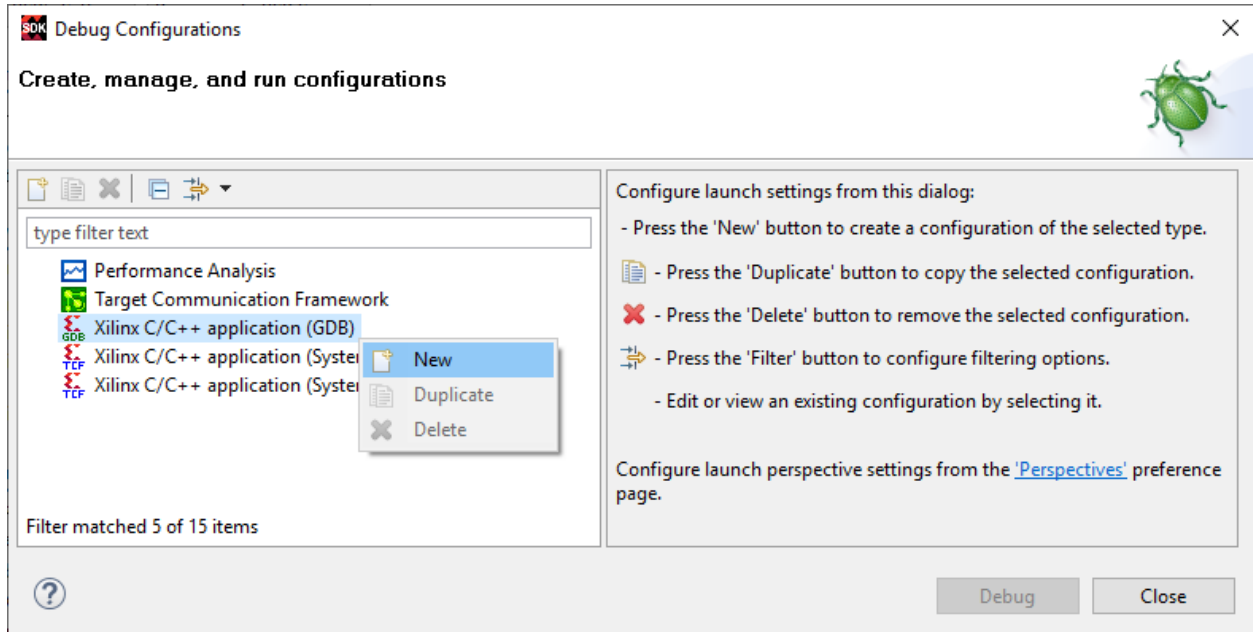

Figure 30: Debug Configurations dialog box.
7. In the Debug Configurations dialog box, right-click **Xilinx C/C++ application (GDB)** and select **New** (Figure 30).